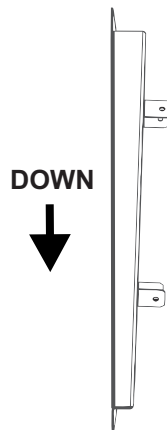

Fig 7.
11. Orientate the flue cowl so that the wall plate angles downwards (Fig 7). Use the six #8 x 1/2" Pan Head screws to secure the wall plate to the weatherbox.